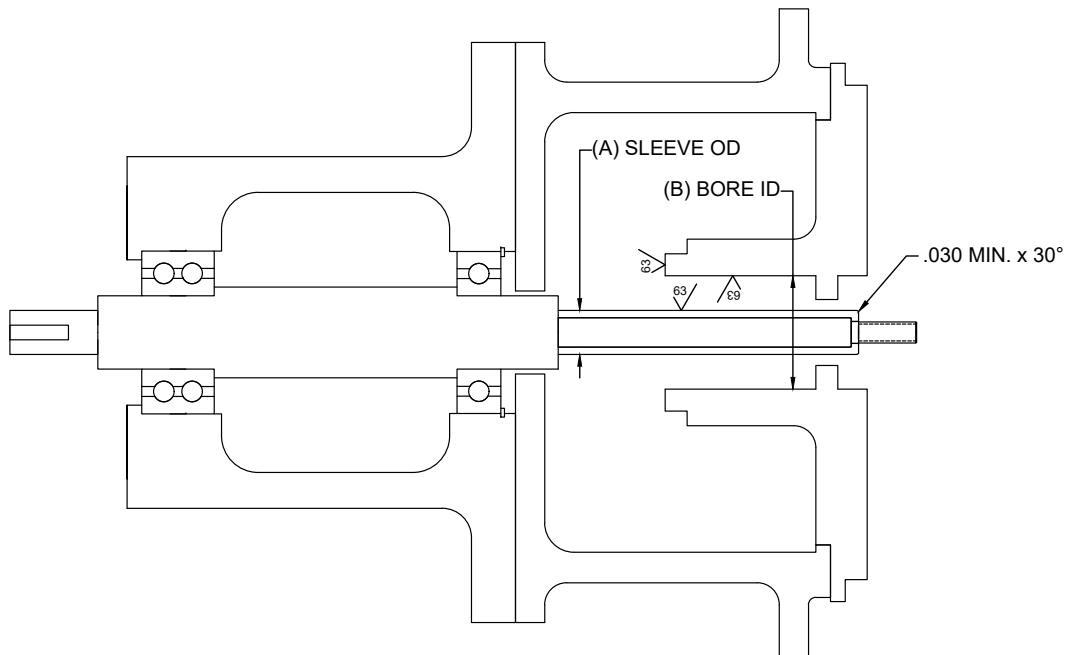

Figure 1: Surface finish and chamfer locations. Fully assembled pump without seal.
5. Sealing surfaces and the shaft or shaft sleeve must have at least a 63 Ra- $\mu$ in surface finish as seen in Figure 1.